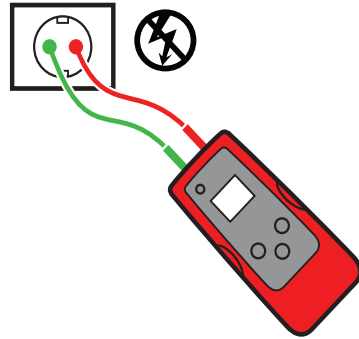

Figure 3.5a
3. Connect red and green test leads to Line and Neutral wires of the same receptacle or wire (see figure 3.5a).*